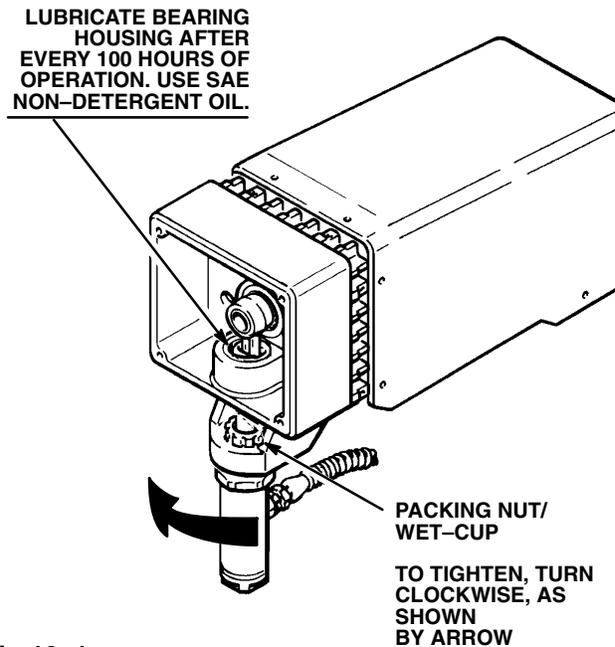

Fig 12-1
The packing nut should be tight enough to stop leakage, but no tighter. Over tightening may cause binding and excessive packing wear. Use a round punch or brass rod and light hammer to adjust the nut. See Fig 12-1.
2. **Lubricate the bearing housing** after every 100 hours of operation. Remove the cover of the bearing housing. Fill the bearing housing cavity with SAE non-detergent oil. See Fig 12-1.